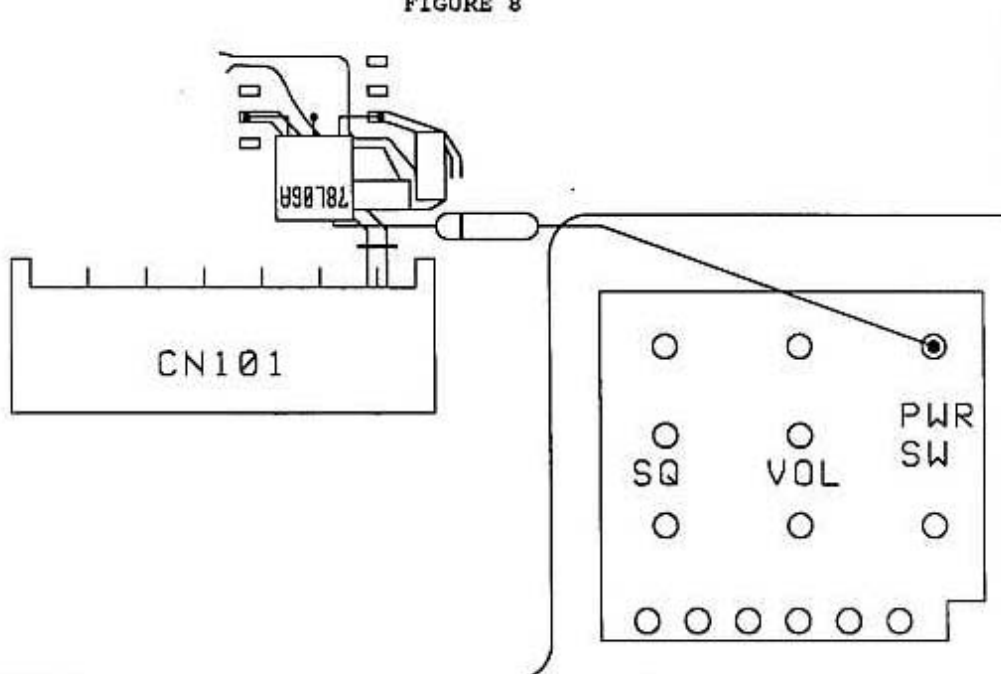

FIGURE 9
20. Place the 6 V AVR on the board and make sure the leads contact the foils. Cut the leads to size and then solder the device to the board. Figure 9.